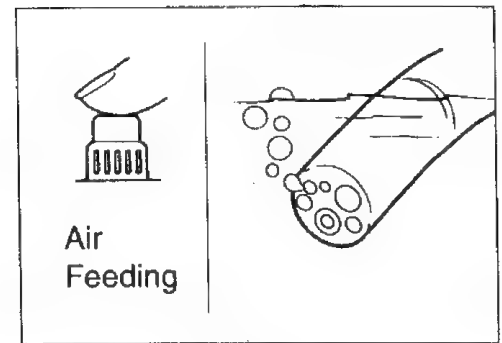
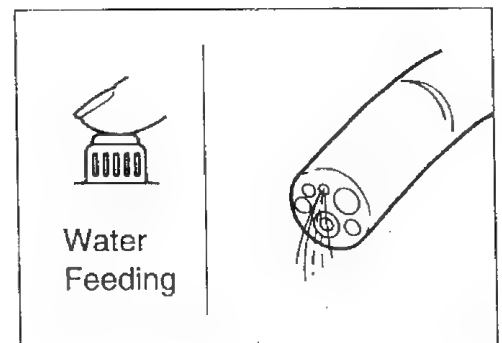

Fig. 16
Fig. 17
16. Exercise Air/Water delivery through the endoscope. Covering air venting hole on top of Air/Water button lightly should deliver air at the distal end of the endoscope by submerging the distal end in enough water to cover the tip, air flow will be demonstrated by a trail of bubbles (Fig. 16). Pressing the button all the way down should deliver water through the tip of the endoscope (Fig. 17).